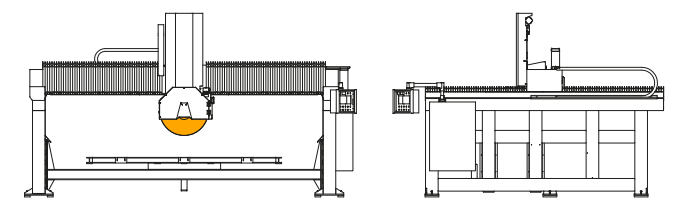

fig. 1
**Infinity recommends using diamond cutting tools on-site only for materials with a thickness of 6 mm,** while for greater thicknesses it is preferable to use tools such as water-cooled diamond blades or water jet cutting instruments (fig. 1), which makes it possible to prevent breakages and facilitate the cutting operations.